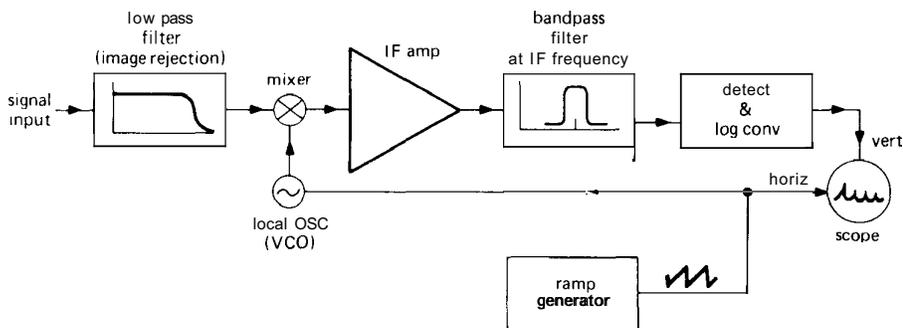

Figure 15.43. Swept-LO spectrum analyzer.
Spectrum analyzers come in two basic varieties: swept-tuned and real-time. Swept analyzers are the most common variety, and they work as shown in Figure 15.43. What you have is basically a superheterodyne receiver (see Section 13.16), with a local oscillator (LO) that can be swept by an internally generated ramp waveform. As the LO is swept through its range of frequencies, different input frequencies are successively mixed to pass through the IF amplifier and filter. For example, suppose you have a spectrum analyzer with an IF of **200MHz** and an LO
chirp/Z transform. In this method a dispersive filter (delay time proportional to frequency) replaces the IF bandpass filter in the swept-LO analyzer (Fig. 15.43). By matching the LO sweep rate to the filter's dispersion, you get an output that superficially resembles the swept analyzer output, namely a linear scan of frequency versus time during each sweep. However, in contrast to the swept-LO analyzer, this scheme gathers signals from the entire band of frequencies continuously. Another interesting technique for real-time spectral analysis is the Bragg cell (or "acousto-optic spectrometer"), in which the IF signal is used to generate acoustic waves in a transparent crystal. These deformations diffract a laser beam, generating a real-time display of the frequency spectrum as light intensity versus position. An array of photodetectors completes the analyzer output. Bragg-cell spectrometers are used in radio astronomy. A typical unit has  $2\text{GHz}$  instantaneous bandwidth, analyzed into 16,000 channels of  $125\text{kHz}$  bandwidth each. When choosing a spectrum analyzer type, be sure to consider trade-offs among bandwidth, resolution, linearity, and dynamic range.